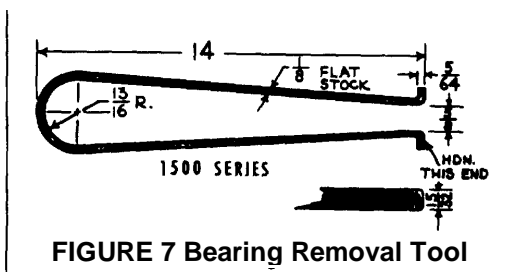

FIGURE 7 Bearing Removal Tool
- n. Complete removal of the bearing, using tool Figures 7 and 8 as shown. Tap out with suitable bar.